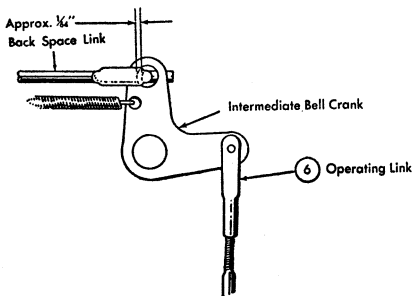

Figure 39. Operating Link Adjustment
6. THE OPERATING LINK. Adjust so that the working side of the hole in the intermediate bell crank will have a clearance with the working side of the backspace link of $\frac{1}{64}$ " (Figure 39).